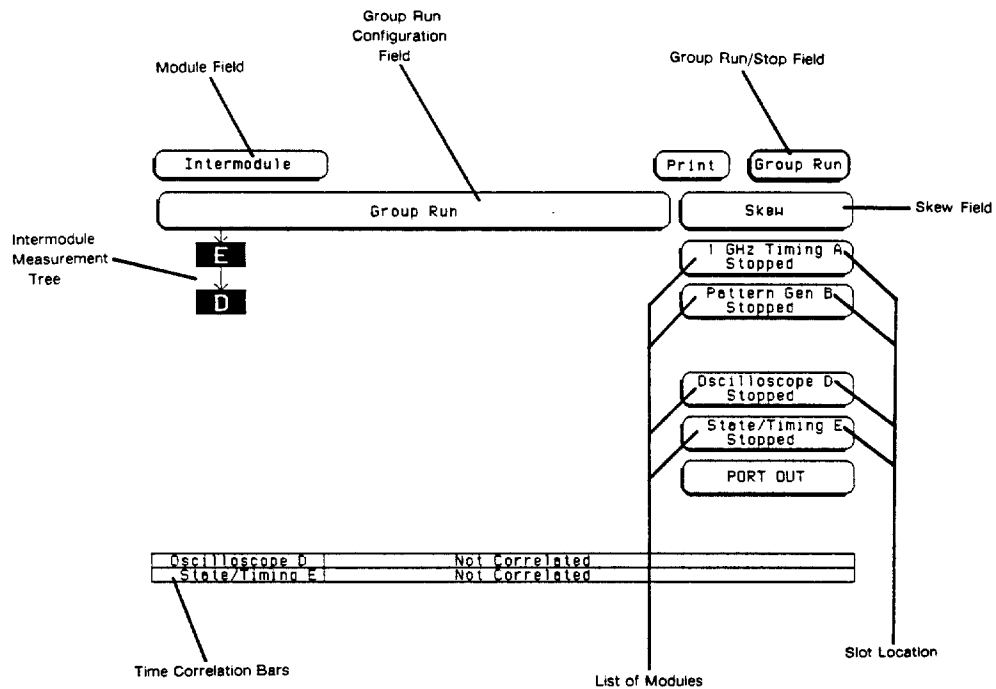

Figure 10-1. The Intermodule Menu
To bring up the **Intermodule** menu, touch the module field (System) in the upper-left corner of the display. When the pop-up appears, touch **Intermodule** to bring up the **Intermodule** menu (see figure 10-1).
1. You can set up modules to run independently or within an intermodule measurement. Initially, the intermodule configuration tree (see figure 10-1) is empty with all the modules running independently. By adding modules to the intermodule configuration tree, intermodule measurements are configured. Modules that appear directly below the large **Group Run** field are armed immediately after the **Group Run/Stop** field in the upper-right corner is touched. Modules that appear below other modules are armed when the preceding module finds its trigger.